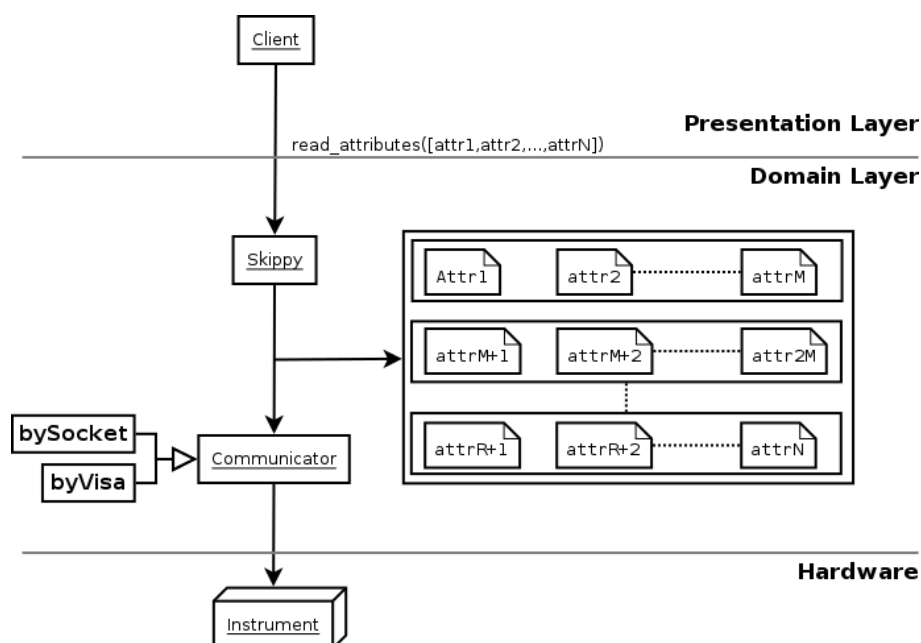

Figure 3: multiple request of readings to the instrument.
- Multiple request of data to the instrument: As figure 3 describes, when the device receives a request for reading to the instrument it can manage to cut those requests in subsets to avoid stress in the instrument. The communication itself supports a direct socket connection to the instrument and the use of the PyVisa device as a bridge in the communication.